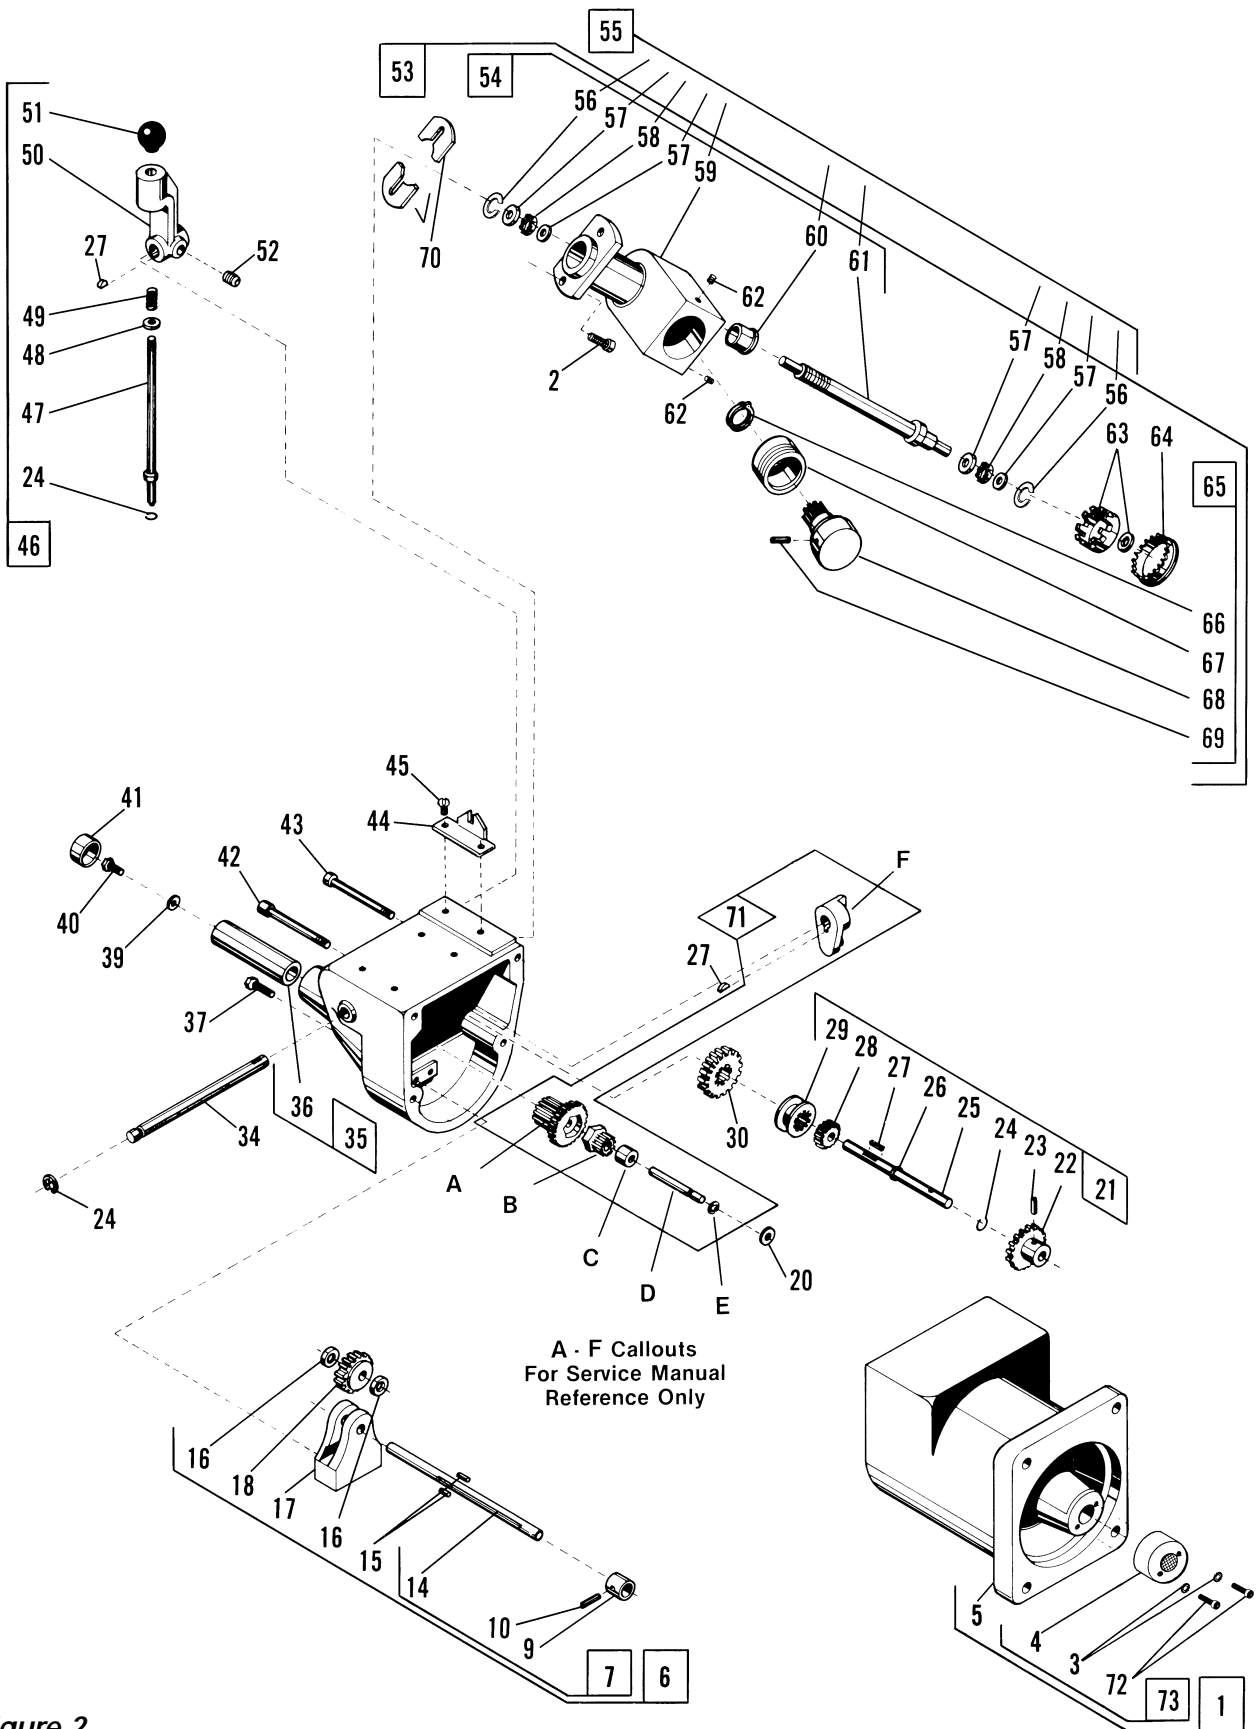

Figure 2
3. Turn #11 Crossfeed Handwheel at least ten (10) turns counterclockwise to disengage #7 Universal Coupling (fig. 2) from #26 Lead Screw.
5. Remove (4) #32 Cap Screws holding #31 Gearbox to the frame of the lathe.
7. If needed, replace the lead screw nut using the #73 Lead Screw Nut Kit (fig. 2).
(Refer to figure 2)
2. Before tightening #32 Screws, align #65 Coupling (fig. 2) with the pin in the driven pulley by rotating the #31 Gearbox on its axis (the amount of rotation is limited by the mounting bolts).
6. Place #46 Shifter Handle (fig. 2) into the slow feed position.
7. Insert a 10" drive extension into the tube, protruding from the back of #35 Gear Case Cover (fig. 2).
8. Exert light pressure against #40 Screw (fig. 2) (installed on #14 Drive Rod (fig. 2), inside the tube, with the wrench extension. This makes contact between #7 Universal Coupling (fig. 2) and #26 Lead Screw. Continue to apply light pressure.
9. Turn #11 Crossfeed Handwheel slowly counterclockwise a few turns to locate lead threads on #7 Universal Coupling (fig. 2) and #26 Lead Screw.
11. Tighten with #11 Crossfeed Handwheel while holding #46 Shifter Handle (fig. 2) in slow feed.